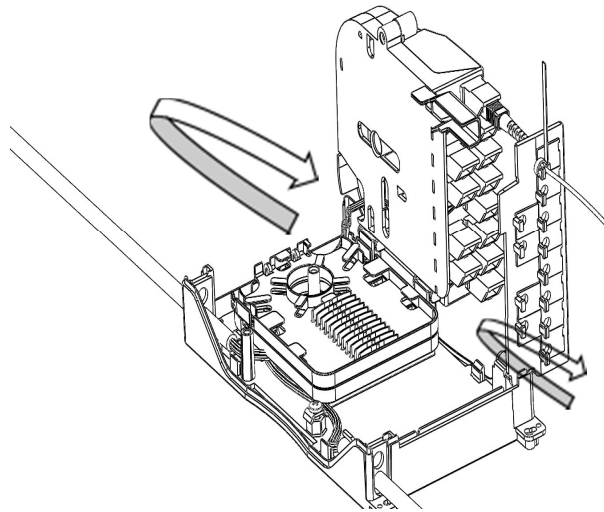

Fig. 35
- 5.1.3. Pivot the adapter tray and the face plate to gain access to other trays (Fig 35);